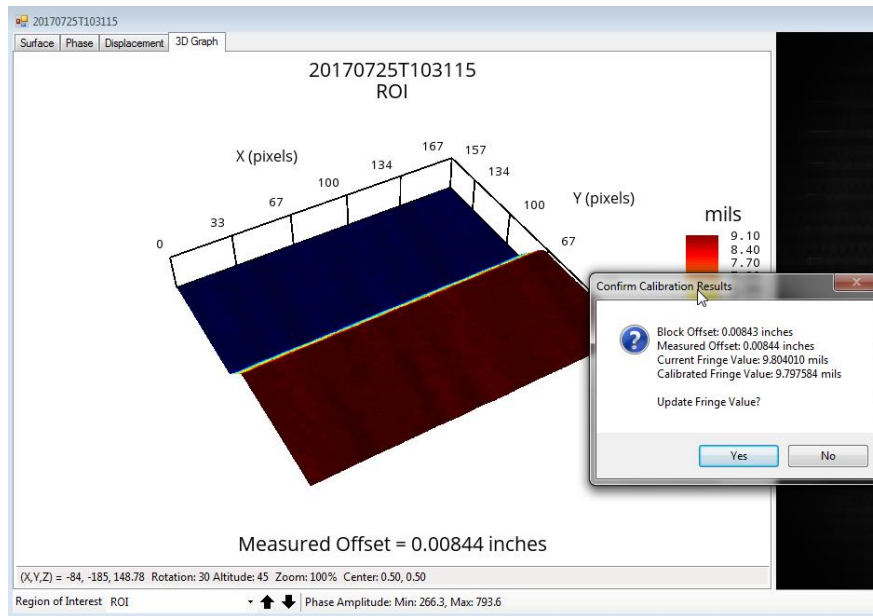

Figure 2.36 Fringe Value Result
3. Right click within the ROI and click **Acquire...** The calibration process is initiated and a result window pops up afterward (**Figure 2.36**), showing the user entered value, the measured value, the old Fringe Value, and the proposed new Fringe Value.